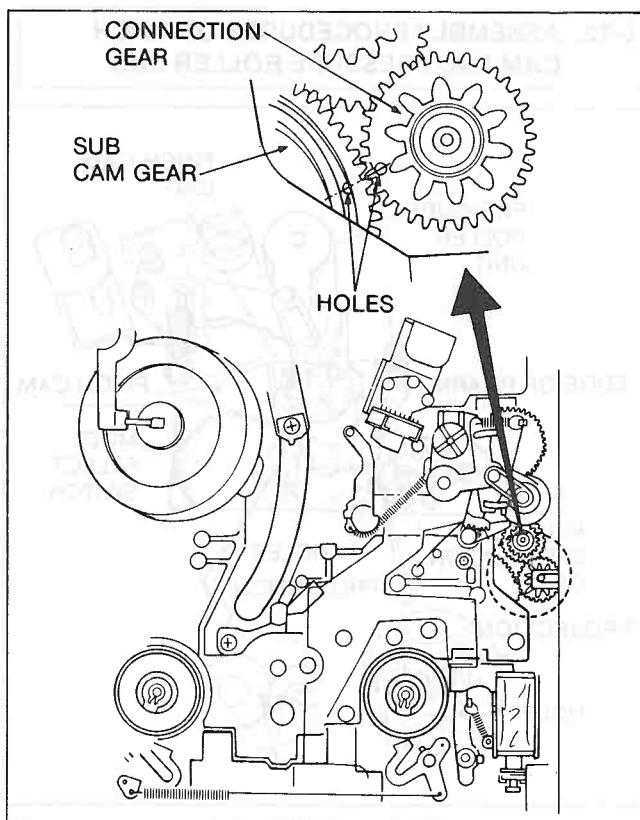

Figure M56
1. Install the Connection Gear so that the small hole in the Connection Gear aligns with the small hole in the Sub Cam Gear as shown in Figure M56.